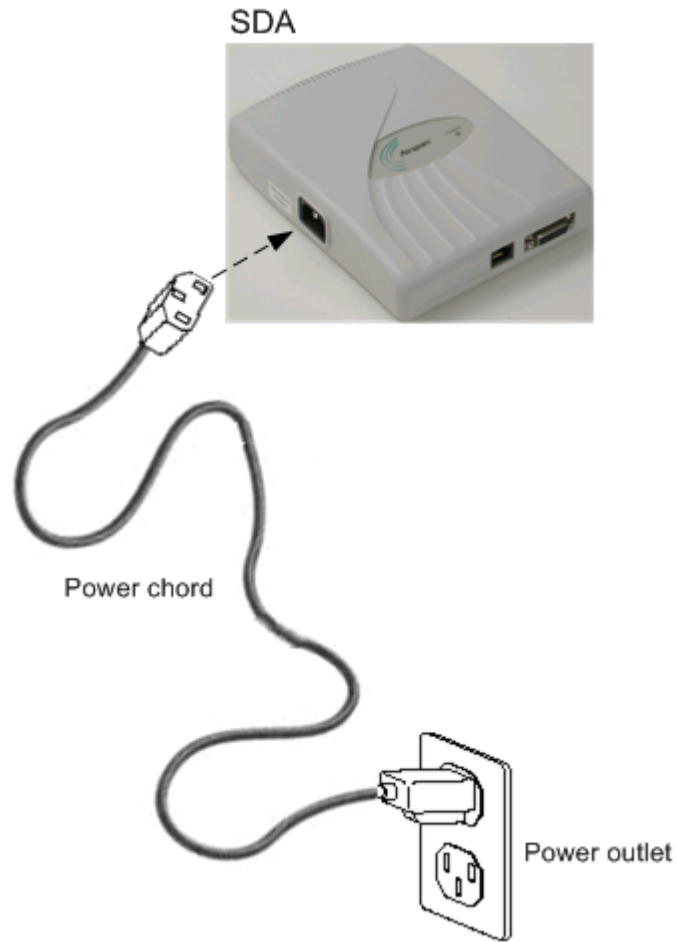

Figure 9-16: SDA Power Cable Connections
1. Plug the power plug female, at the end of the AC power chord, into the power plug male located on the left of the SDA chassis (see Figure 9-16).
2. Plug the power plug male, at the other end of the AC power chord, into the wall power outlet (110-240 VAC). (See Figure 9-16.)